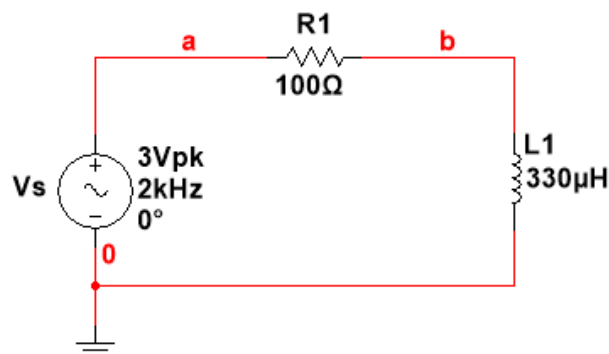

Fig.B.2.1: Circuit diagram of a series RL circuit
1. Measure the practical values of the circuit components (R,L) shown in Fig.B.2.1 using DMM & LCR meter and note down in the Table 2.1
2. Construct the circuit shown in Fig.B.2.1 on the bread board. Connect Channel 1 of the oscilloscope across the source V_S (positive red port to node 'a' and negative black port to node '0' i.e. ground). Connect the channel 2 at node 'b' (positive red port to node 'b' and negative black port to node 0 i.e. ground).